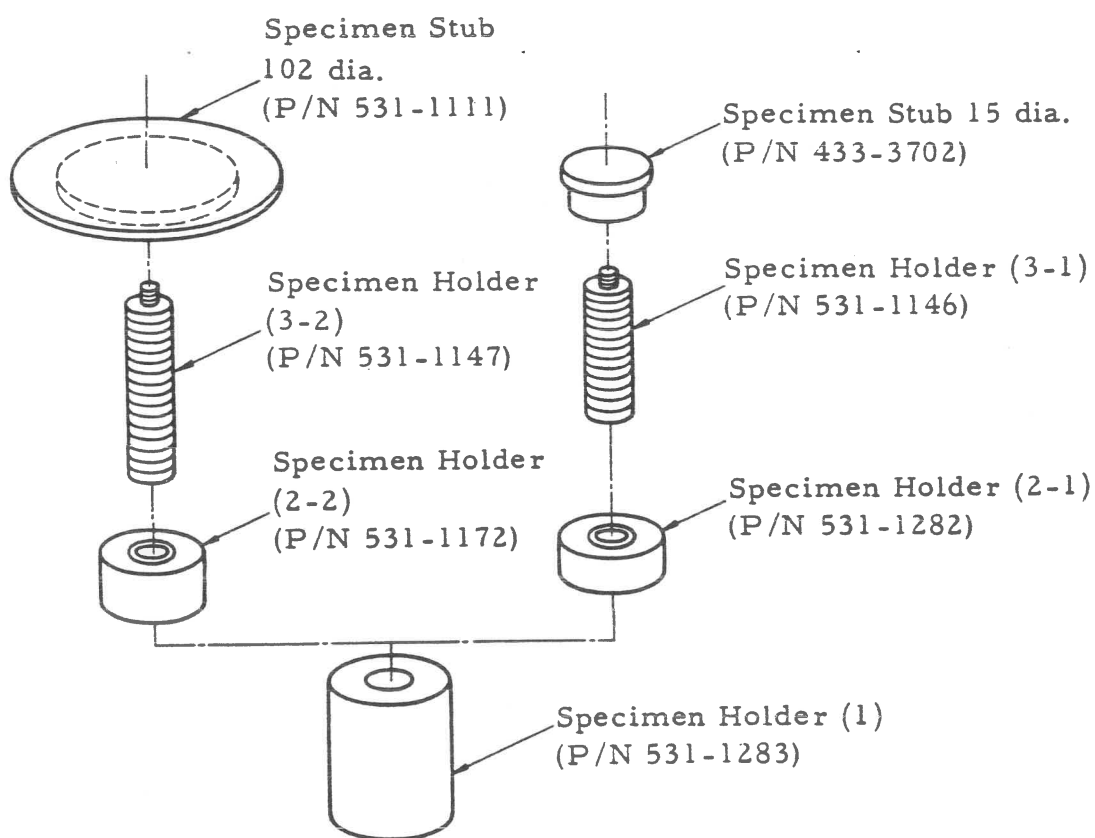
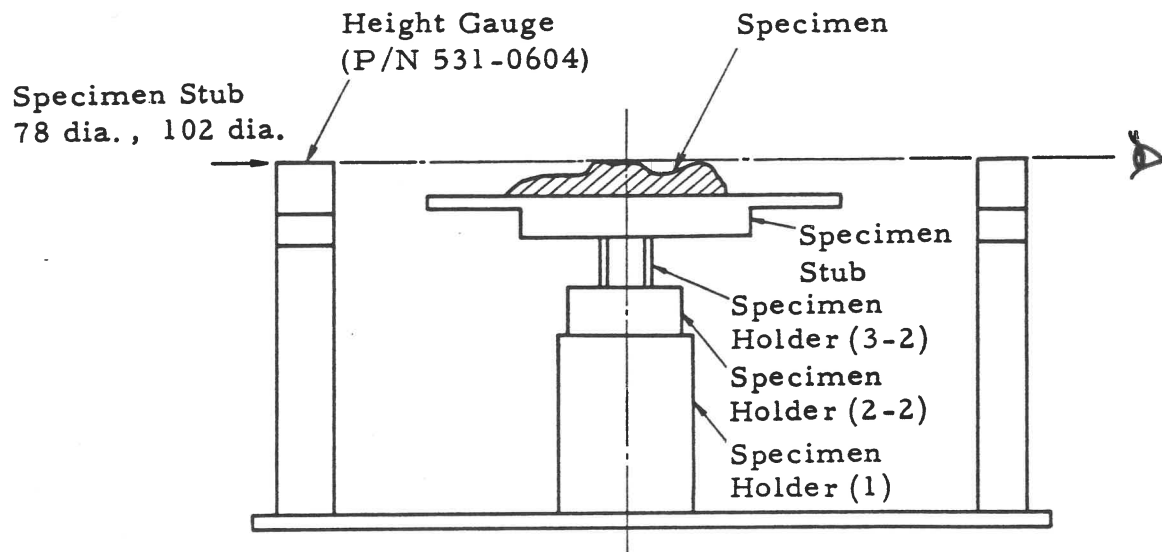

Fig. 2-2 Construction of Specimen Holder and Specimen Stub
Fig. 2-3 Specimen Height Adjustment (specimen stub 78 dia., 102 dia.)
- (7) Mount a new specimen on the specimen stub (Fig. 2-2).
- (8) Fix the specimen stub on the specimen holder (3) securely.
- (9) Loosen the specimen holder (1) and (2), adjust the specimen height to the gauge and fasten. Adjustment height depends on specimen stub. For the position, see Figs. 2-3 and 2-4.
- (10) Mount the specimen holder assembly on the specimen stage.
- (11) Install the specimen stage in the specimen chamber.
- (12) Depress the **EVAC** pushbutton switch.
- (13) As the **HIGH** vacuum lamp lights up, the evacuation is completed.